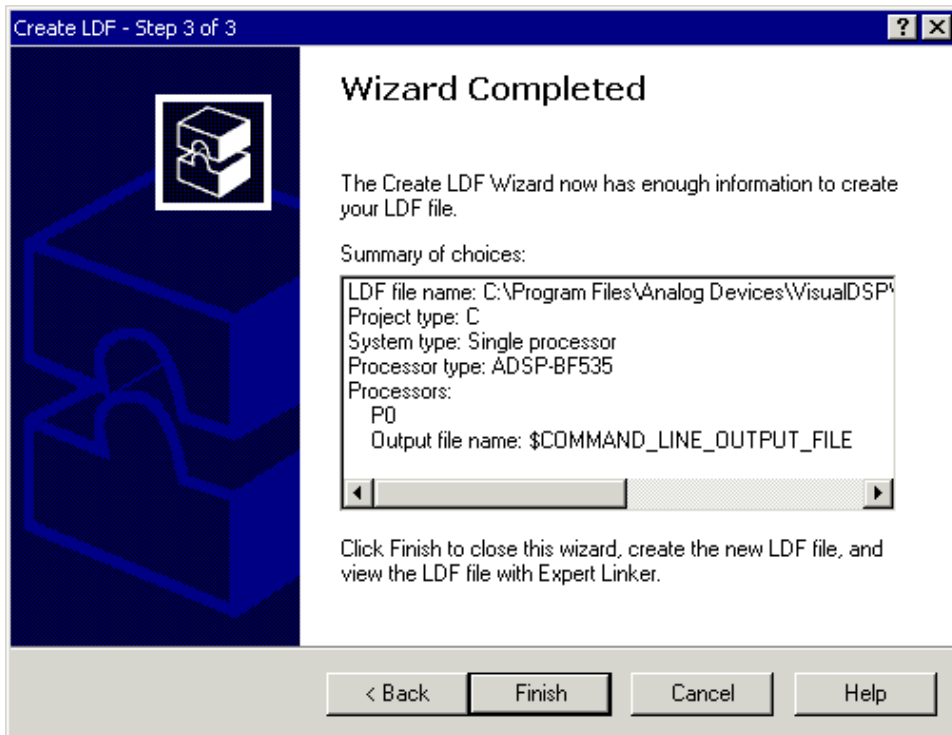

Figure 2-17. Create LDF – Step 3 of 3 Page
4. Accept the default values and click Next to display the Create LDF – Step 3 of 3 page, shown in Figure 2-17.